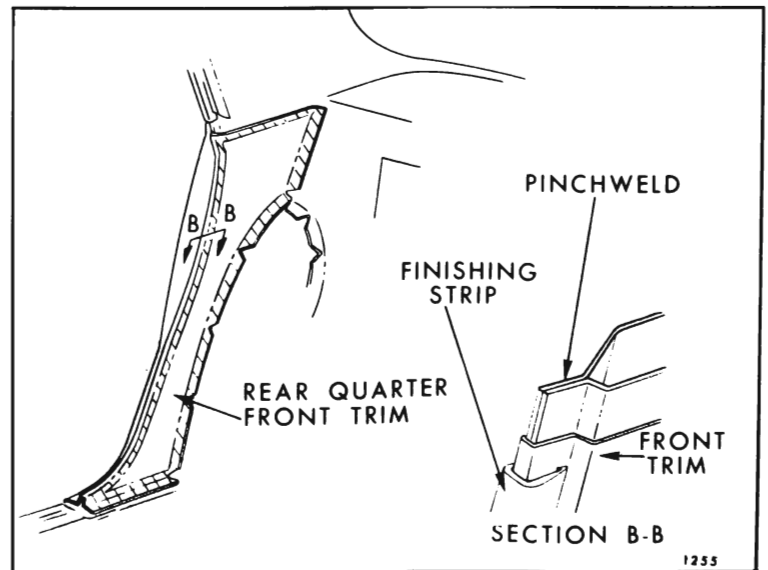

Fig. 8-15—Rear Quarter Trim Assembly - Oldsmobile 33839, 69 and Buick 44439 Styles
2. Detach rear body lock pillar finishing strip and remove rear door sill plate (see section "B-B" in Fig. 8-15).
3. With a putty knife, or other suitable flat bladed tool, detach trim assembly at cemented areas indicated in Fig. 8-15.